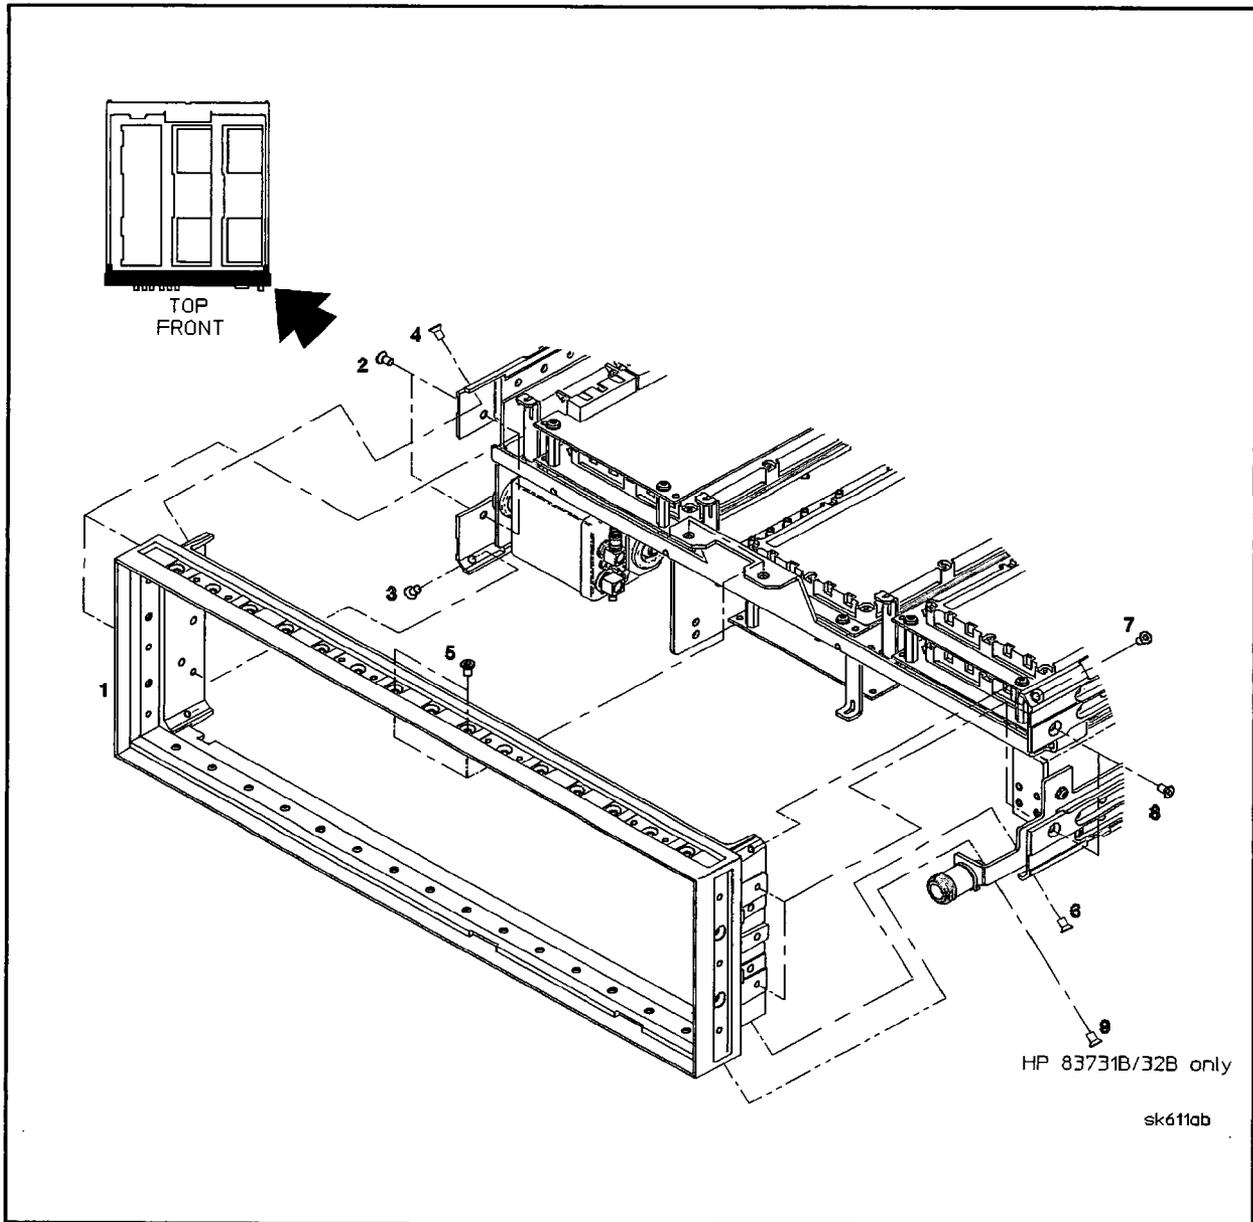

Figure 5-40. Front Frame Removal
2. Using a size 10 and 15 TORX® screwdriver, remove the ten (10) screws from the front frame. See Figure 5-40.